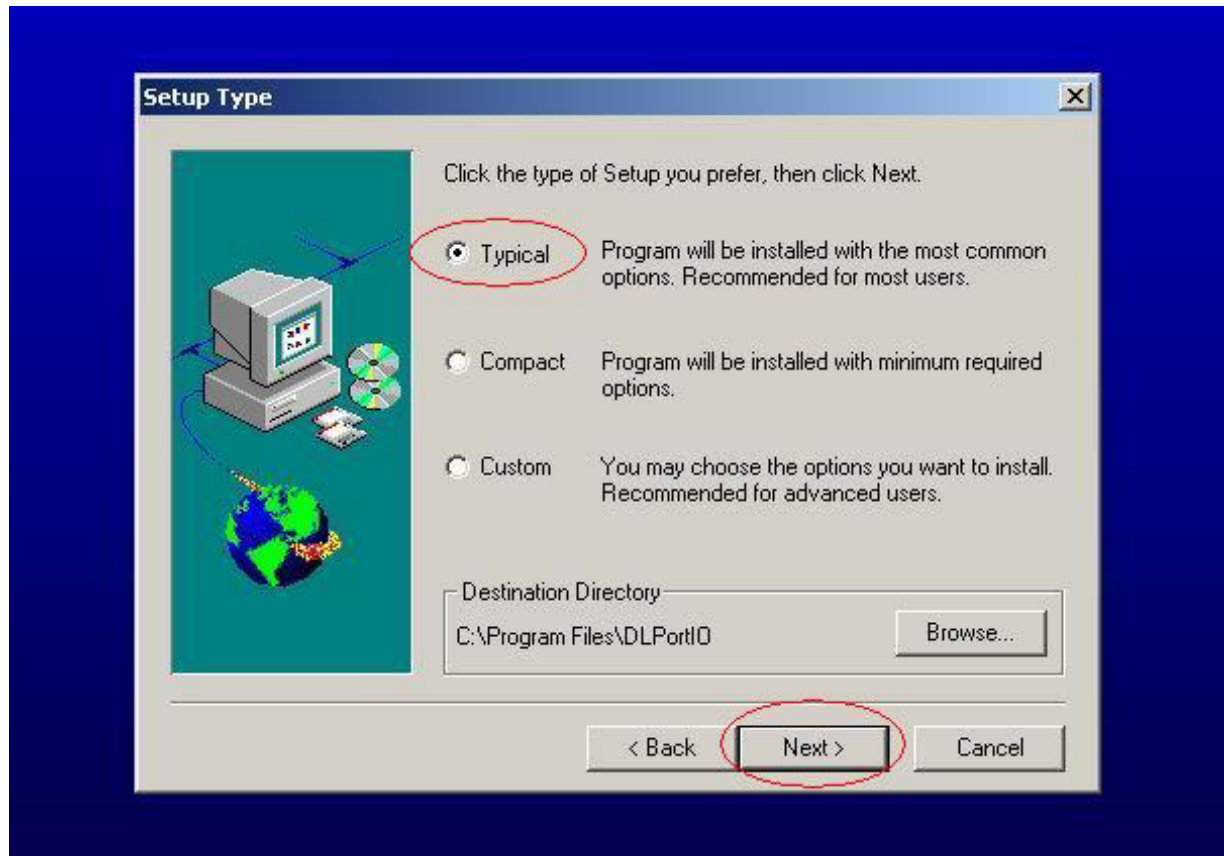

Fig. 0.3
4. Choose “Typical “ then press “ Next “ , see Fig. 0.3